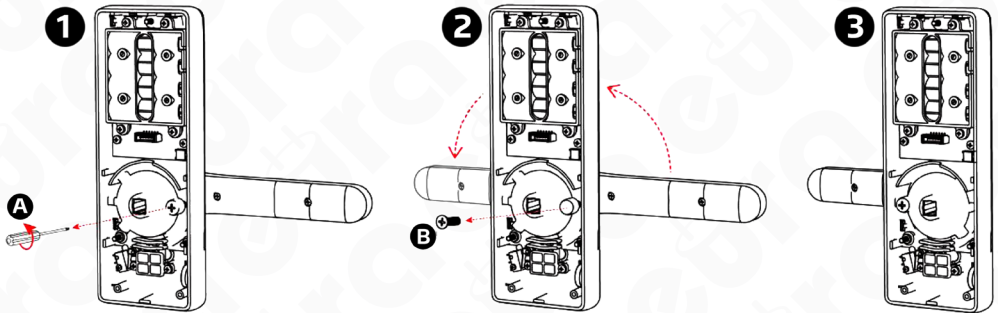

Fig. 7
- unscrew the locking screw located next to the pin seat (Fig. 7, position 1-A)
- set the handle grip in the desired direction (Fig. 7, position 2)
- once the direction is set, tighten the screw setting the handle direction (Fig. 7, position 3).